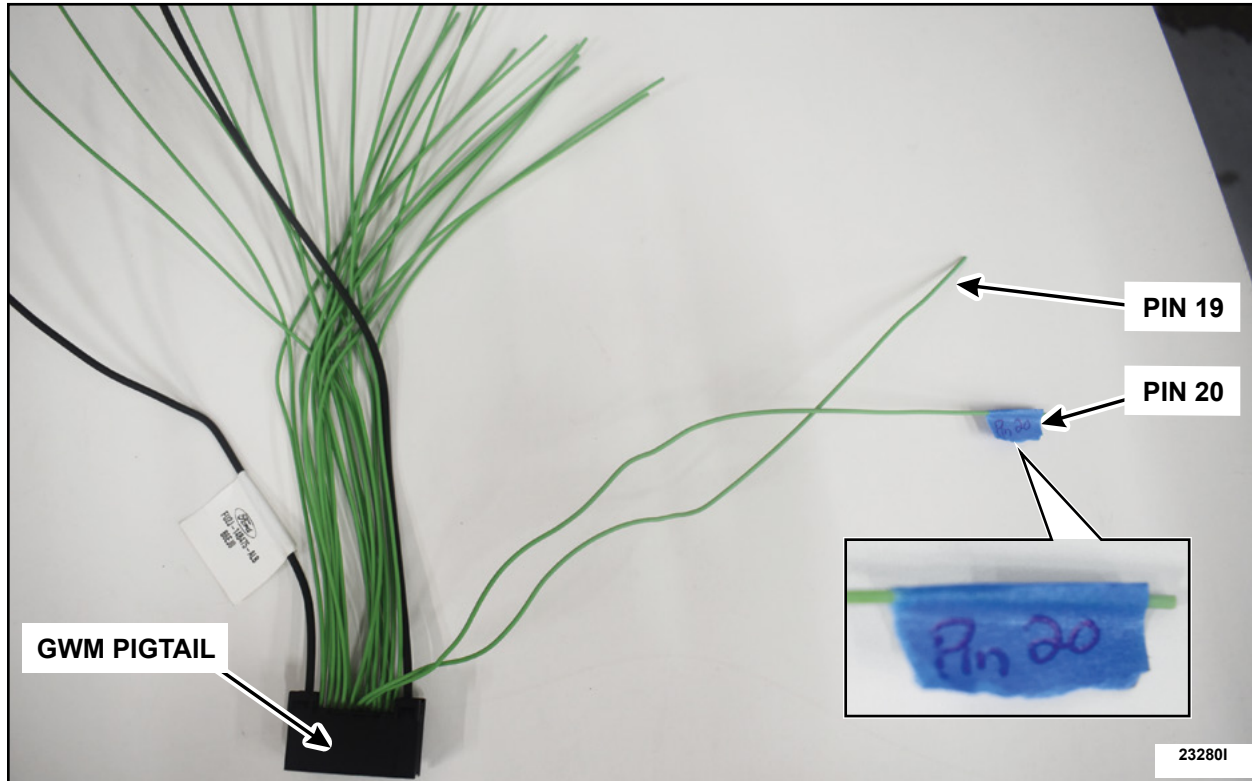

FIGURE 7
19. Identify Pin 19 and 20 on the GWM pigtail. Mark one of the wires using a piece of tape. See Figure 7.